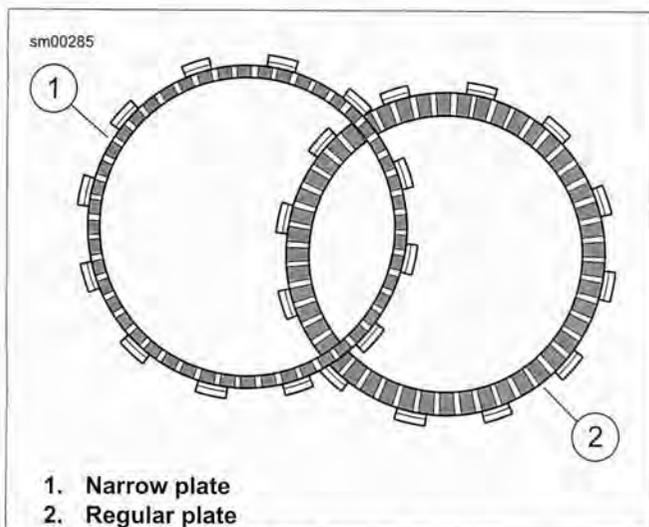

Figure 5-32. Friction Plates
2. See Figure 5-32. Install narrow friction plate on the clutch hub, engaging tabs on plate with slots in clutch shell.